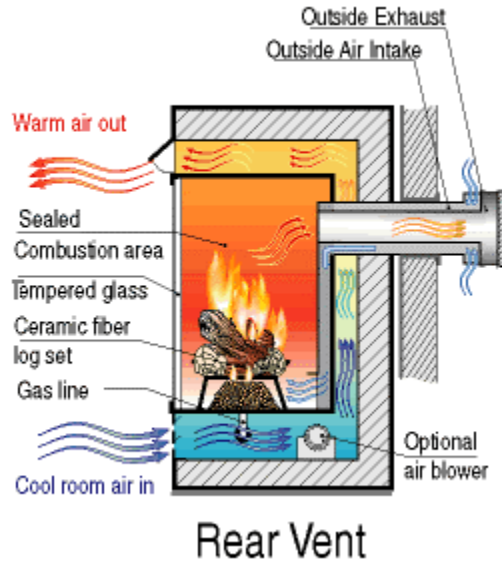

Figure 15 Direct vent coaxial rear exit, horizontal or vertical termination. (adapted from Chew/Fireside Group Inc., 2017). Used with permission.
- Direct vent coaxial rear exit, horizontal or vertical termination (Figure 15)